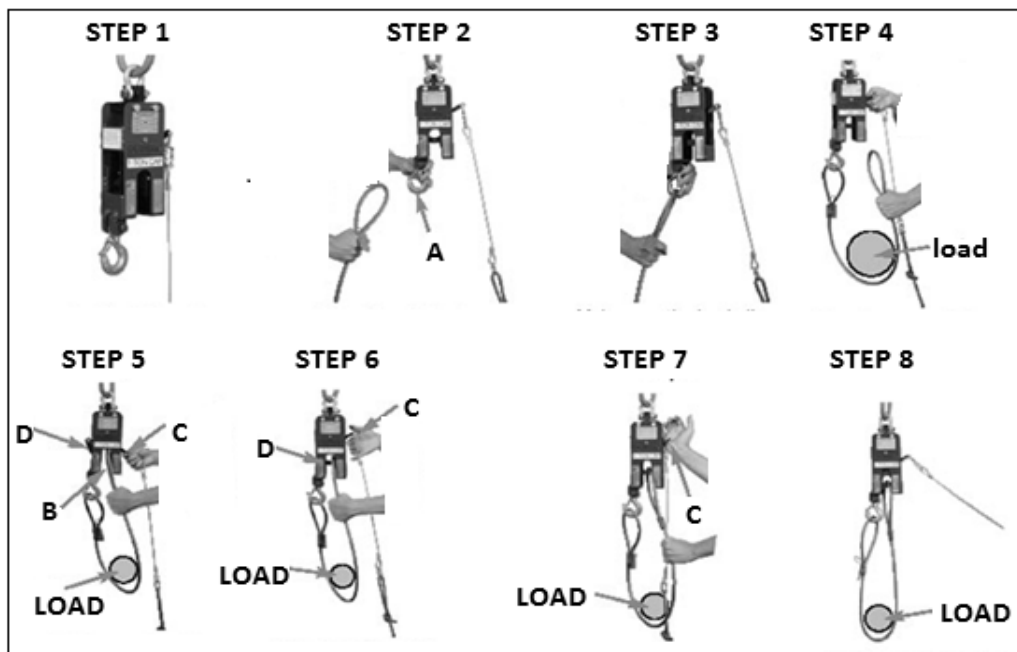

FIGURE 4
- 5.1 Explain each step in FIGURE 4 showing how to basket-hitch a load onto a detaching device. Write only the answer next to the step number (1–8) in the ANSWER BOOK.